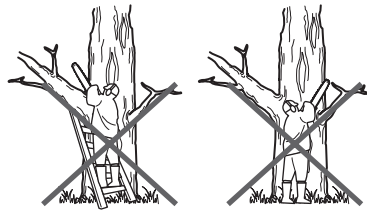

Fig. 29
8. Do not operate the product with arms fully extended or attempt to saw areas which are difficult to reach, or on a ladder. Never use the product above shoulder height (Fig. 29).